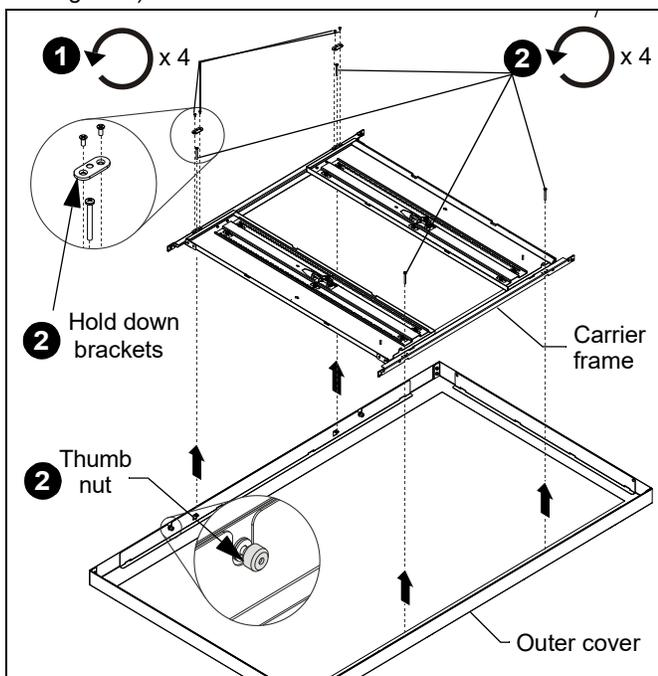

Figure 8
1. Remove and **SAVE** four flathead Phillips screws and two hold down brackets. (See Figure 8)
2. Remove and **SAVE** four Phillips screws, loosen four thumb nuts and remove carrier frame from outer cover. (See Figure 8)